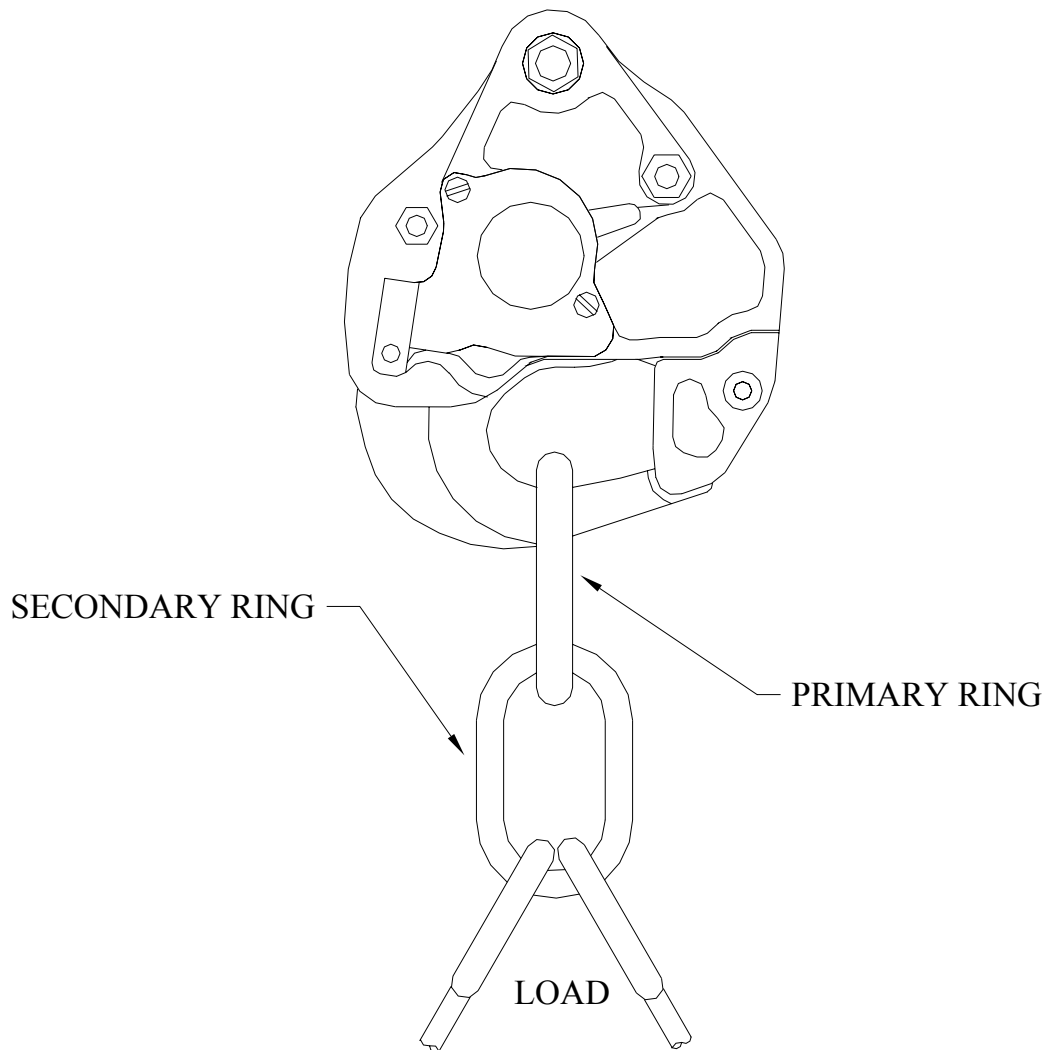

Figure 1. Example of Recommended Cargo Hook Rigging.
*CAUTION:* Nylon type straps (or similar material) or rope must not be used directly on the cargo hook load beam. If nylon straps or rope must be used they should be first attached to a steel primary ring. Verify that the ring will freely slide off the load beam when it is opened. Only the primary ring should be in contact with the cargo hook load beam. See figure 1.